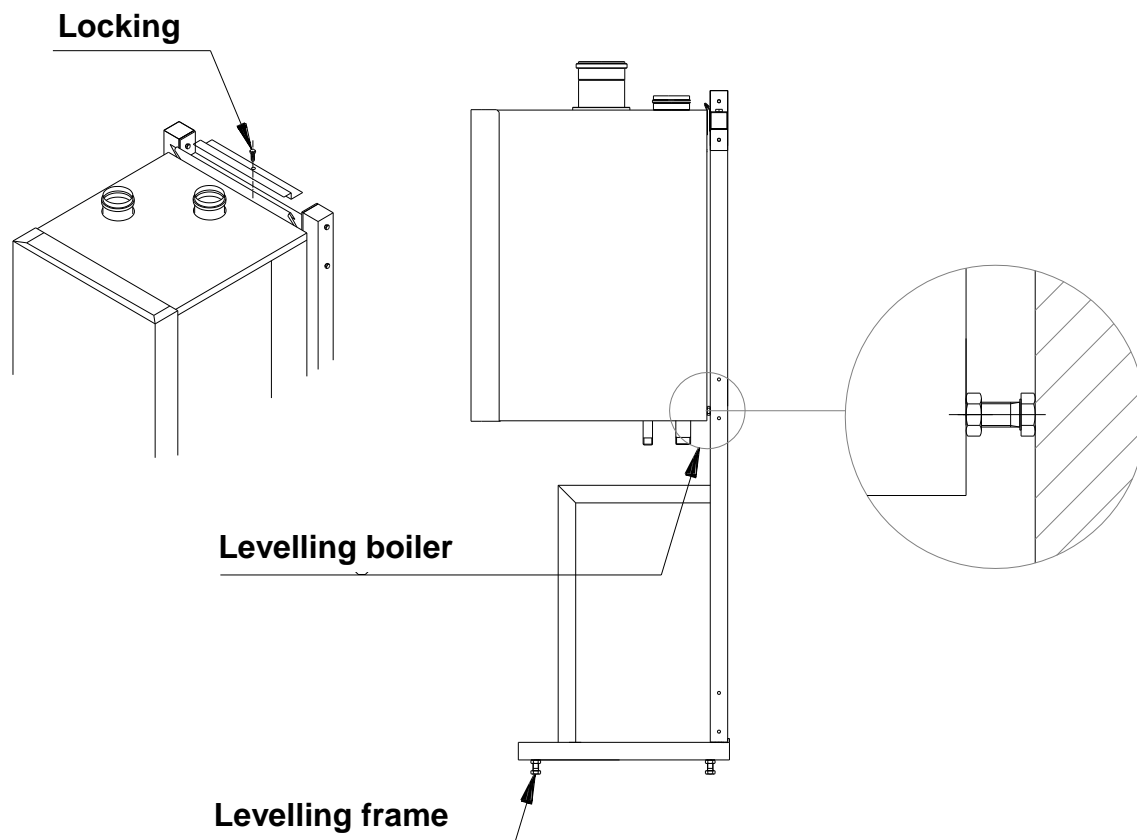

Figure 9.1 Mounting details
1. Before mounting the boiler on the frame, ensure that the frame is level both horizontally and vertically. If necessary adjust with the adjusting bolts on the lower side of the frame (see Figure 9.1).
The boilers must hang backwards slightly ($1^\circ \pm 0.5^\circ$). If necessary, adjust with the adjusting bolts on the lower rear side of the back panel (see Figure 9.1). When the adjusting bolts are **not** sufficient, the space behind the bolts needs to be filled to achieve the correct position.